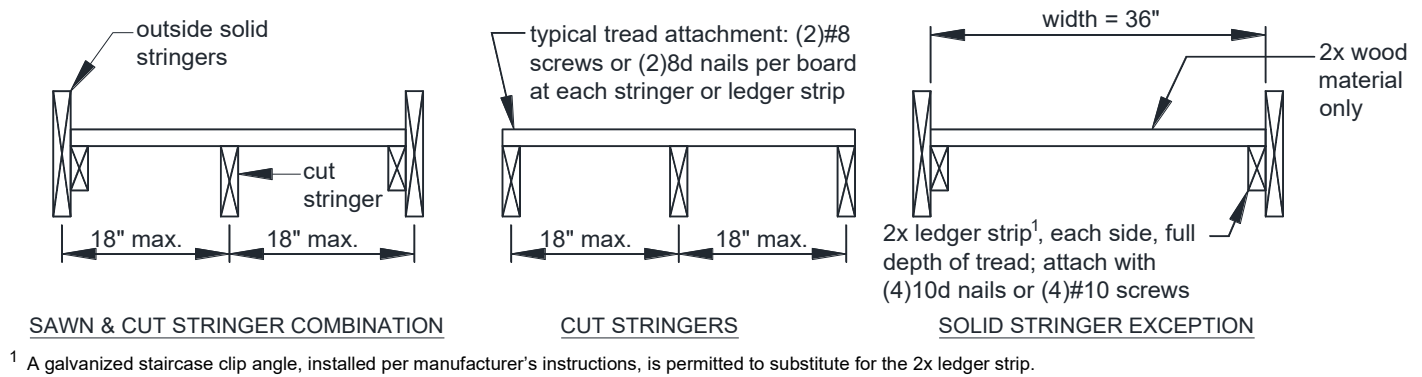

FIGURE 19: STRINGER TREADS
- Tread material shall be equivalent to the decking specified on Page 4 and attached in accordance with FIGURE 19. The span of plastic composites shall be per manufacturer and in some cases may be less than 18 inches specified in FIGURE 19.
- Stairs constructed using the solid stringer exception shall have treads constructed of 2x wood material only; see FIGURE 19.